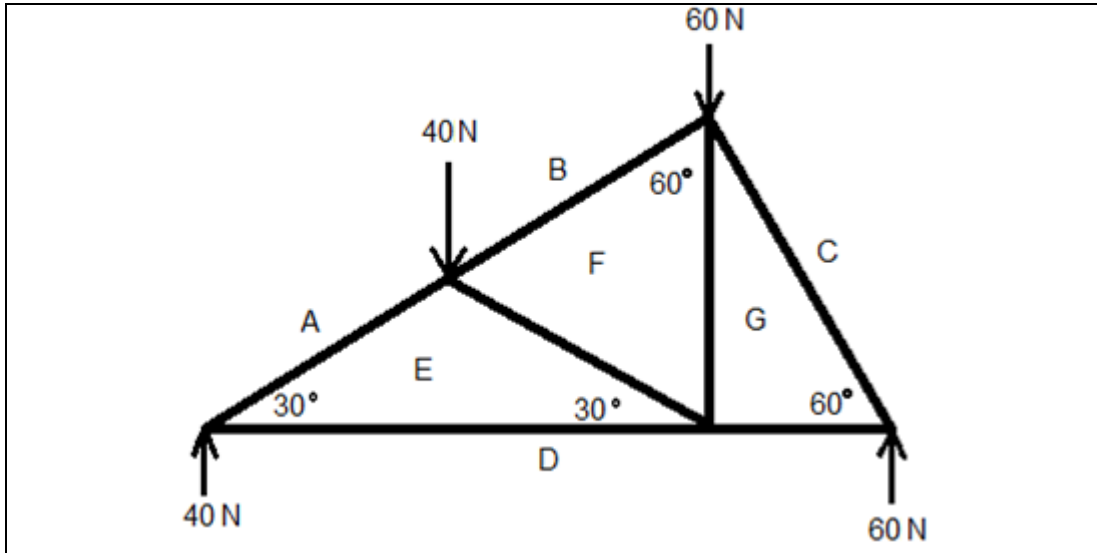

FIGURE 5.1
5.1 FIGURE 5.1 below shows the design of a roof truss to be erected on a building.